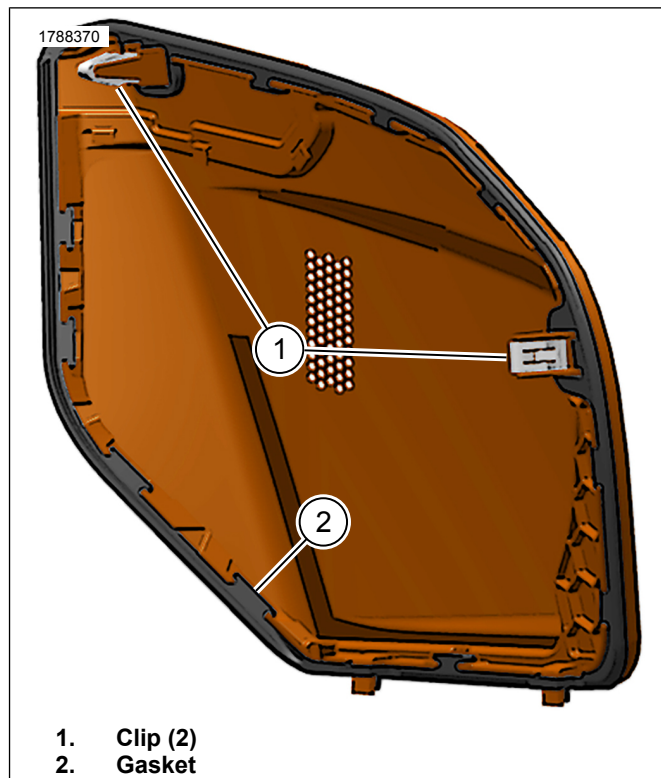

Figure 5. Grille Gasket
- a. Figure 5 Verify clips (1) and gasket (2) are in place on grille.